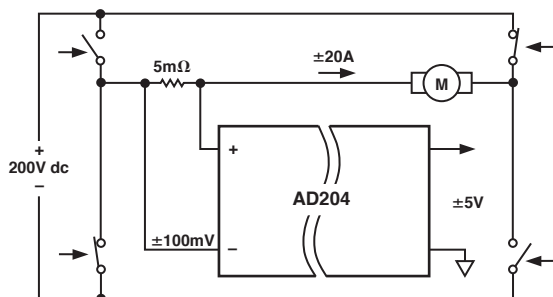

Figure 20. Motor Control Current Sensing
**Motor Control Isolator.** The AD202 and AD204 perform very well in applications where rejection of fast common-mode steps is important but bandwidth must not be compromised. Current sensing in a full-wave bridge motor driver (Figure 20) is one example of this class of application. For 200 V common-mode steps ( $1 \mu s$  rise time) and a gain of 50 as shown, the typical response at the isolator output will be spikes of  $\pm 5$  mV amplitude, decaying to zero in less than  $100 \mu s$ . Spike height can be reduced by a factor of four with output filtering just beyond the isolator's bandwidth.